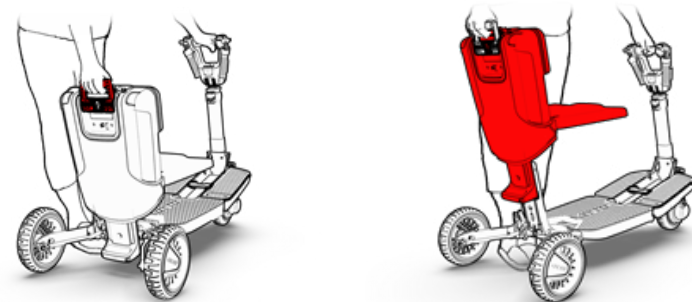

Figure 15
11. Continue using the handle to pull up the chair until it clicks and locks in place (see Figure 15).